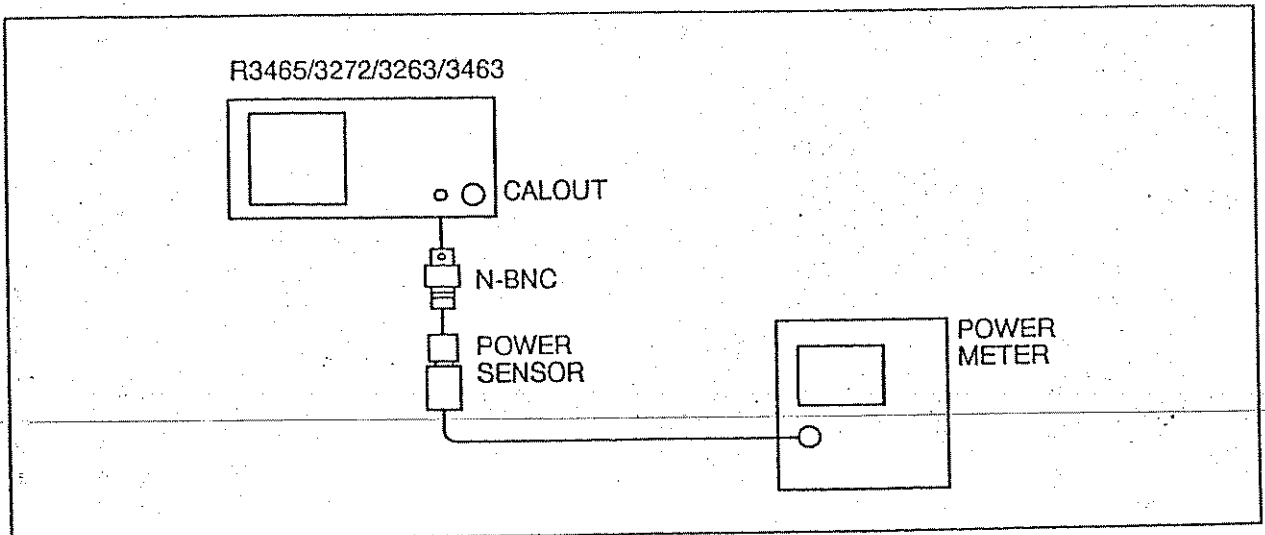

Figure 1-17 Calibration Amplitude Accuracy Test Setup
- (1) Connect the equipment as shown in Figure 1-17.
- (2) Press the power sensor zero of the power meter and calibrate the power sensor. Enter the power sensor's 30 MHz calibration factor into the power meter.
- (3) Connect the power sensor via an N(f) – BNC(m) adapter directly to the CALOUT connector. Read the power meter display. The power level should be within the following limits ($\pm 0.3 \text{ dB}$):